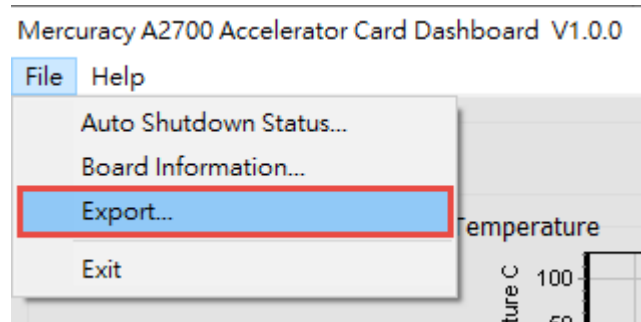
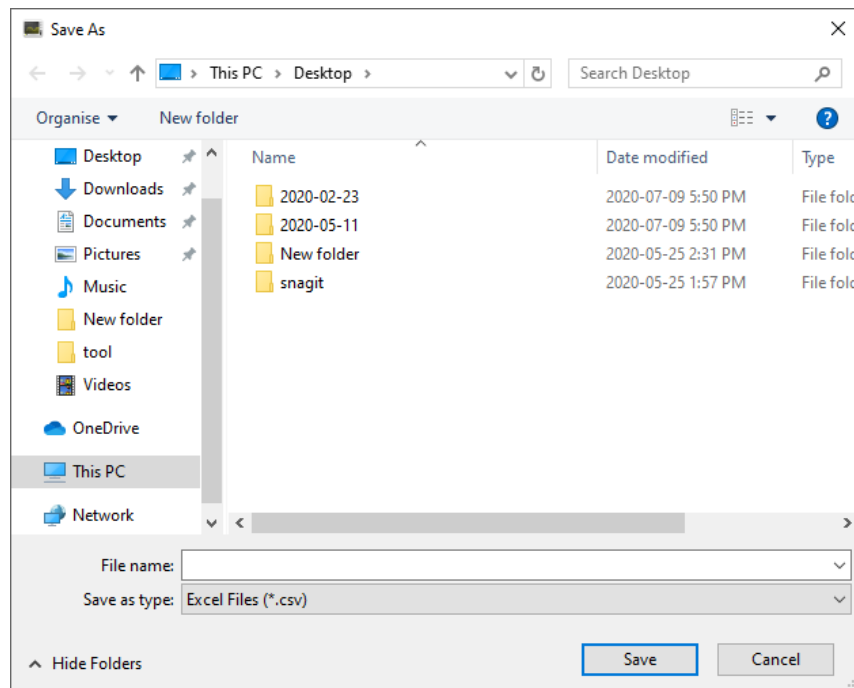

Figure 4-18 Export the log file
Figure 4-19 Export the log file in .csv format
- **Log File:** Click the Export in the File page to save the board temperature, fan speed and voltage data in .csv format document, as shown in Figure 4-18 and Figure 4-19.